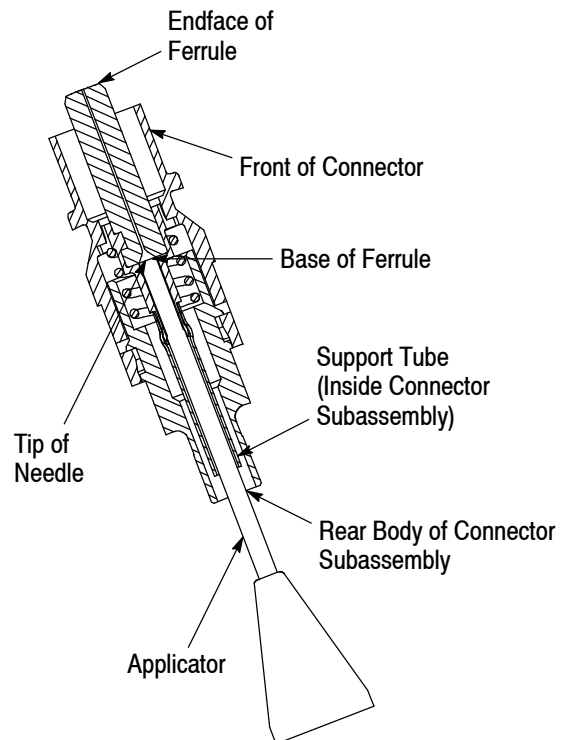

Figure 5
- Hold the connector subassembly in an upright position, and insert the tip of the needle into the rear body and support tube of the connector subassembly until the tip of the needle touches the base of the ferrule. Refer to Figure 5.
4. Keeping the tip of the needle against the base of the ferrule, *slowly* inject the epoxy or adhesive into the connector subassembly until a small bead of epoxy or adhesive exits from the endface of the ferrule. See Figure 5.